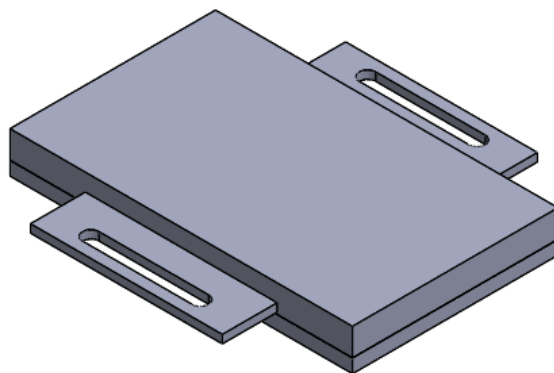

Figure 21-65 Final Mold Base assembly
- j. Create the exploded view of the assembly, refer to Figure 21-65.
Similarly, create another insert. The final Mold base assembly is shown in Figure 21-65.